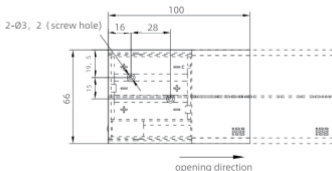

FIGURE 2
a. Slide to open the Safe Monitor cover to reveal two installation holes. The screw holes are located in the battery case shown in Figure 2.